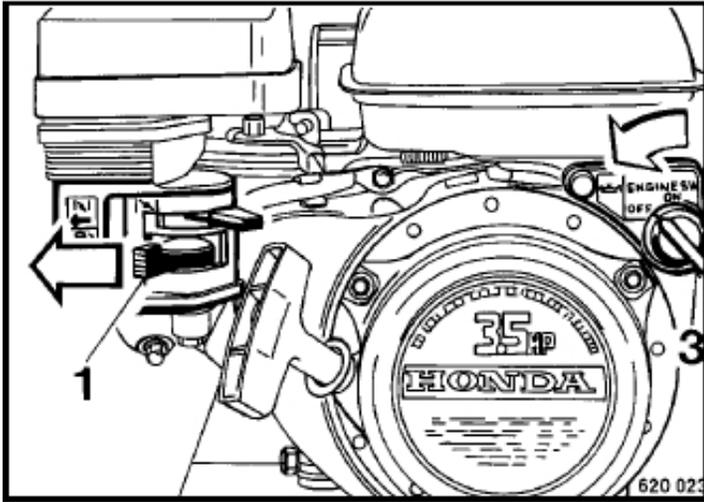

Fig. 21
- Close the fuel valve 1 (Fig. 21) in direction of arrow.